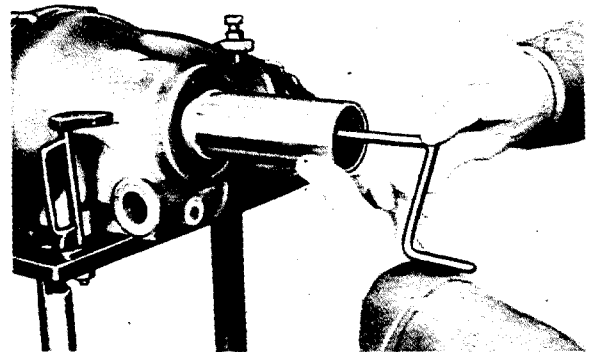

Fig. H 3a/65
65. Bolt sliding joint to right-hand rear axle shaft in differential housing by means of the tightening screw (Fig. H 3a/65). Be careful not to interchange the adjusting washer which has been selected previously (see Operation No. H 3a, cf. 40).
66. Attach rubber boot to rear axle housing. The large bulge of the eccentric boot must be at top (see Fig. H 3a/69).